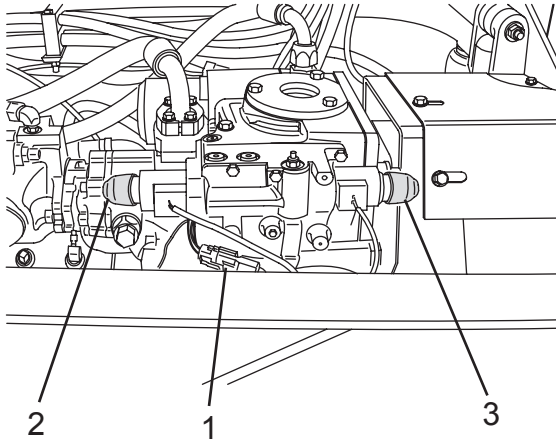

Figure 4
11. **For Traditional Controls with EP (Electric Proportional Controls) Only:** Locate and disconnect the main electrical connector (Figure 4, Item 1) from the charge/discharge coils. Move the connector away from its mating connector.
12. Locate and remove the charge/discharge manual override buttons (Figure 4, Items 2 and 3).